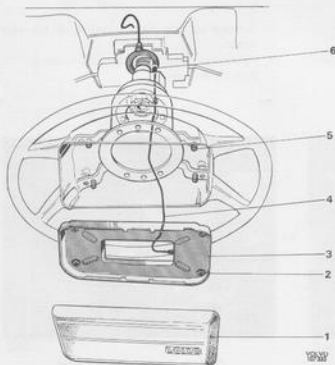

Fig. 3-136. Contact bar
1. Remove the impact guard (1, Fig. 3-136). (Carefully lever it loose with the help of a screwdriver.)
2. Disconnect the electric cable (4, Fig. 3-136) from the contact bar (3, Fig. 3-136).
3. Remove the four attaching screws (2, Fig. 3-136) for the contact bar and lift off the bar. Installation of the contact bar is in reverse order to removal. After installation, check the flasher function.